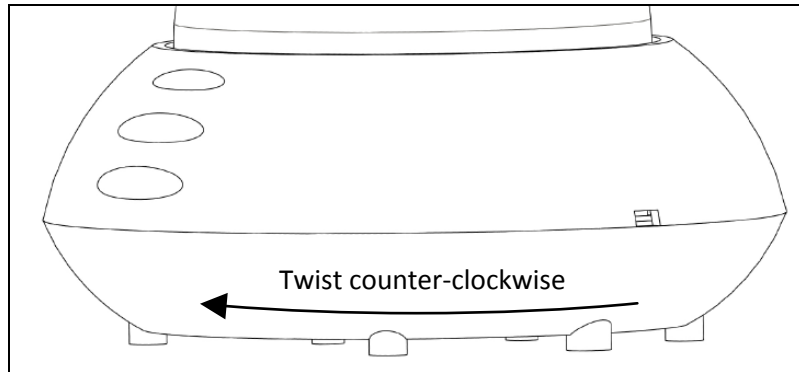

Figure 1 - Remove mounting base
3. Remove the mounting base of the housing by twisting counter-clockwise (see Figure 1)